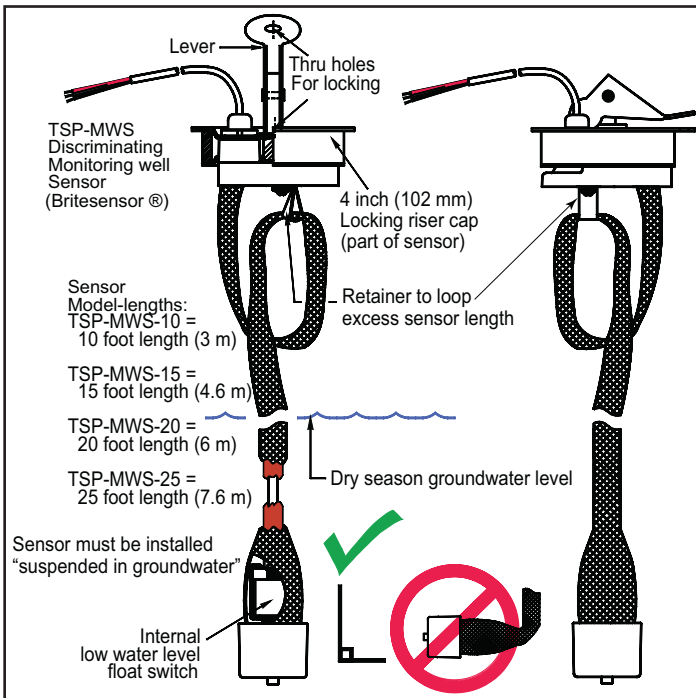

Figure 1: TSP-MWS Sensor Dimensions
10. Install the TSP-MWS sensor in the well screen pipe and latch the riser cap (ref. Figure 1 & 2).